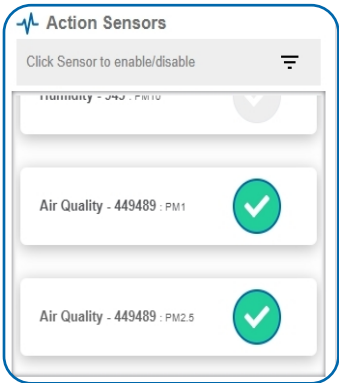

Figure 16
- By default, the sensor(s) will not be assigned to the action conditions you've just set. To assign a sensor, find the device(s) you want to designate for this action and select. Selected sensor boxes will turn green when activated. Choose the sensor box again to unassign the sensor from the action. See Figure 16.